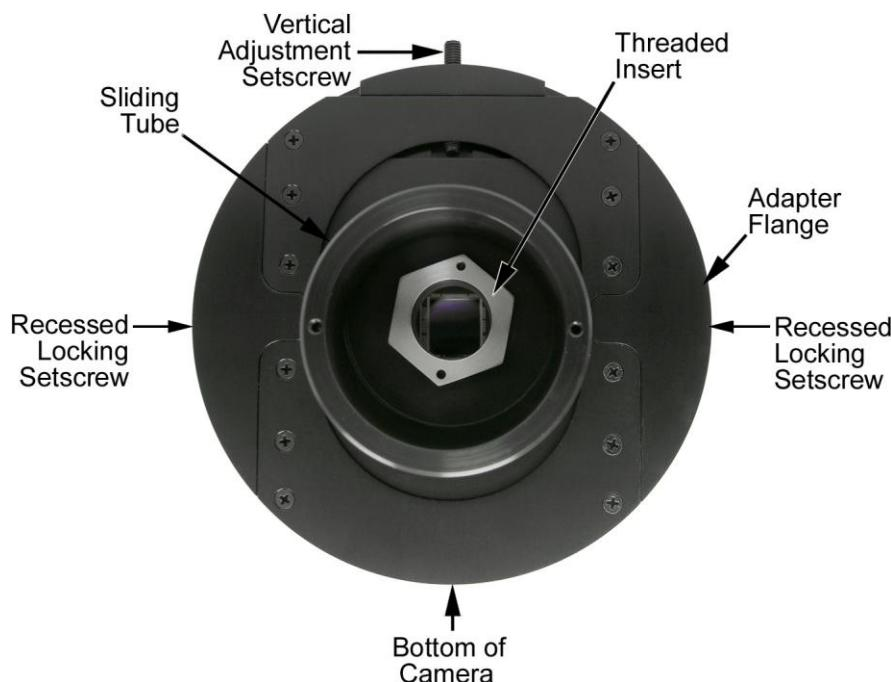

Figure 10. Adjustable C-to-Spectroscopy-Mount Kinetics Adapter
The adjustable spectroscopy-mount kinetics adapter allows you to move the camera vertically at the exit plane of an Acton Series spectrograph in order to align the kinetics rows at the middle of the focal plane for the best spectral quality. The adapter is mounted to the front of a PIXIS camera and is secured to the camera by a threaded insert screwed into the camera's C-mount opening. Refer to Figure 10 when mounting the adapter to the camera.
2. Orient the adapter with the setscrew at the top (see Figure 10) and, using a spanner wrench or equivalent (distance between holes is 1.17" [29.7 mm]), tighten the threaded insert into the C-mount opening on the camera.